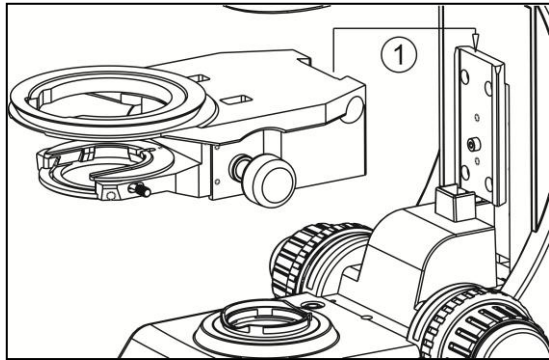
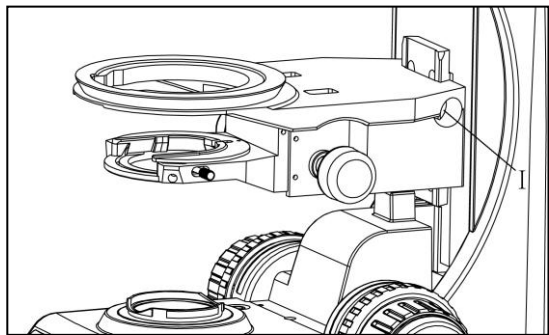

Fig 1
Fig 2
Bracket (fig 1, fig 2)
- ★ Install the platform bracket according to the path of ① in figure 1. The dovetail slot needs to align with the slot of platform bracket, sliding it until the screw fix it . Then use the hex wrench tighten the screw shown as I in figure 2.
- ★ Install the mechanical object stage according to the path of number ② in figure 2. First align the object stage's hole center and the bracket circle center, then object stage downward slides the bracket locating ring